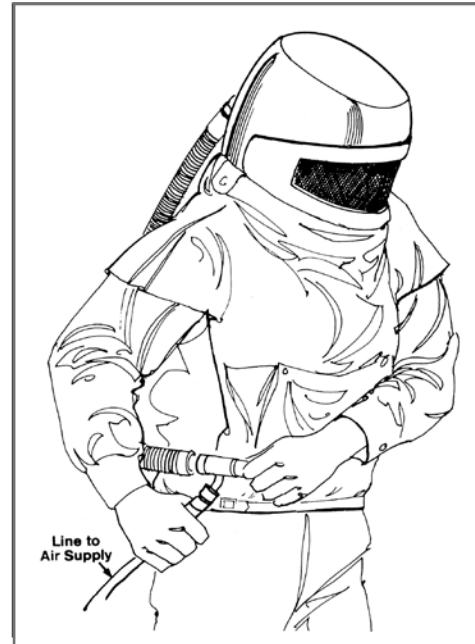

Figure 8:
1. Airline Unit – relies on a hose connecting the respirator to cylinders of compressed breathing air. An abrasive blasting supplied-air hood is one example (Figure 8).
- 2. Constant-Flow Mode** – A constant flow of air is delivered to the wearer. Sandblasting hoods use a simple valve to control the flow of “clean” air from the compressor (Figure 8). PAPRs use a battery-powered fan to draw air through the filter and then blow it into the facepiece (Figure 9). Minimum flow rates must be maintained to minimize inward leakage of contaminated air and still provide adequate breathing air.